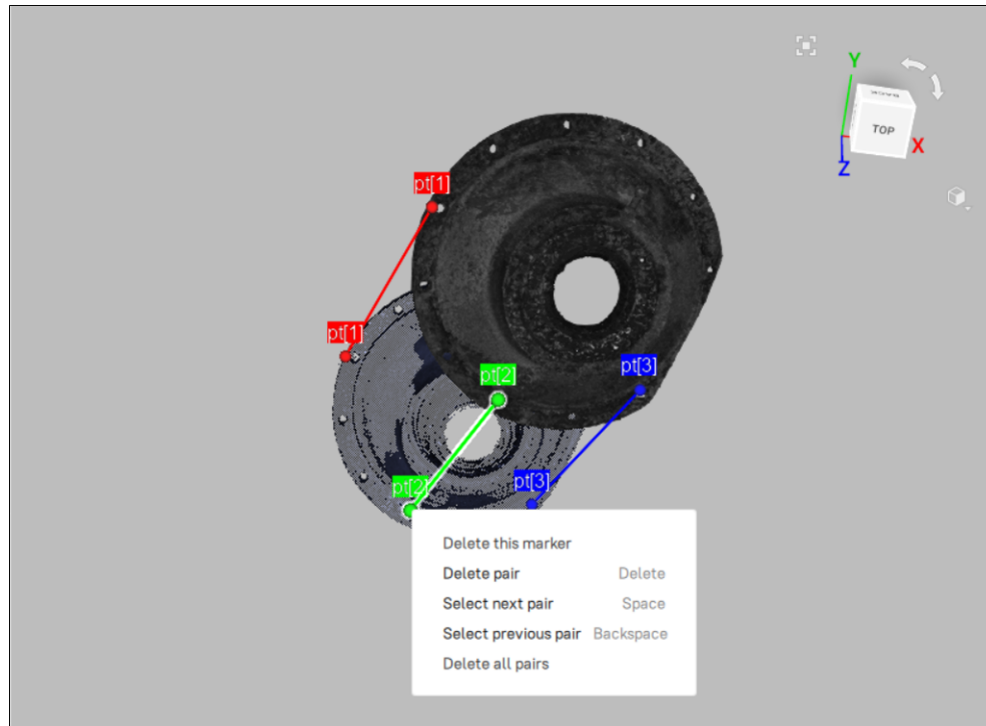
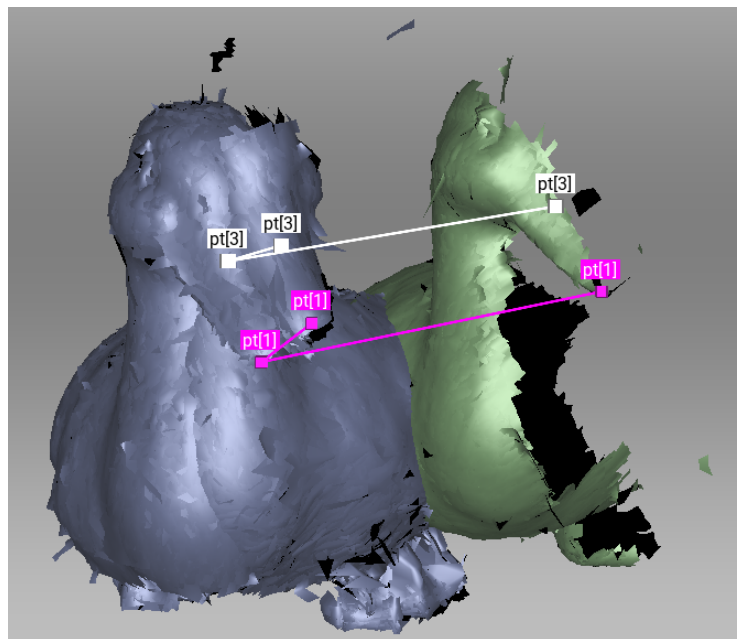

Figure 125: Creation of point pair.
Figure 130: Before alignment: two point-set added.
When specifying points in the *Best Fit* and *Nonrigid* types, the application automatically creates pairs. Having specified one pair, you can immediately create the next one. In the *Complex* type you must confirm set creation by hitting *Space* or by clicking *New set* from the left panel, because the set may comprise multiple points (see Figure 125 and Figure 130).
4. Specify several point pairs (Figure 125), keeping in mind the recommendations from Specifying Point Sets \(Markers\) and Editing their Positions.
3. Specify one or more point sets on the scan surface (see Figure 130), keeping in mind the recommendations in Specifying Point Sets \(Markers\) and Editing their Positions.